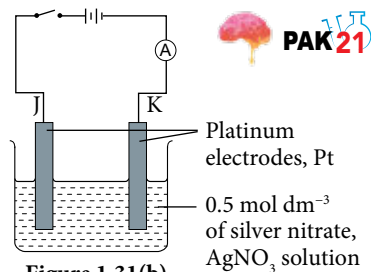

Figure 1.31(b)
- Carefully study the electrolytic cell in Figure 1.31 (a) and Figure 1.31 (b).